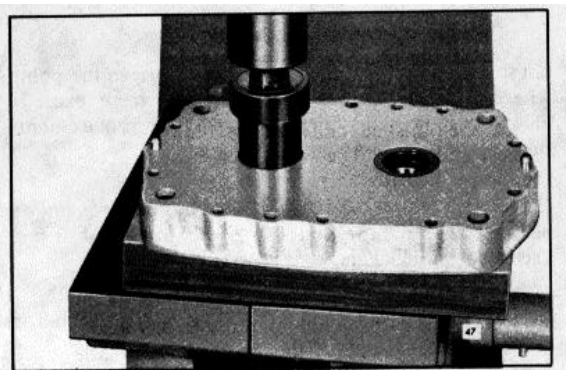

Fig. 6 Removing Oil Seal and Bearing from End Plate with Tool J 6270-3
- c. Place the long end of the oil seal remover and installer J 6270-3 down through the oil seal and into the bearing, with the opposite end of the remover under the ram of the press (Fig. 6). Then, press the bearing and oil seal out of the end plate. Discard the oil seal.